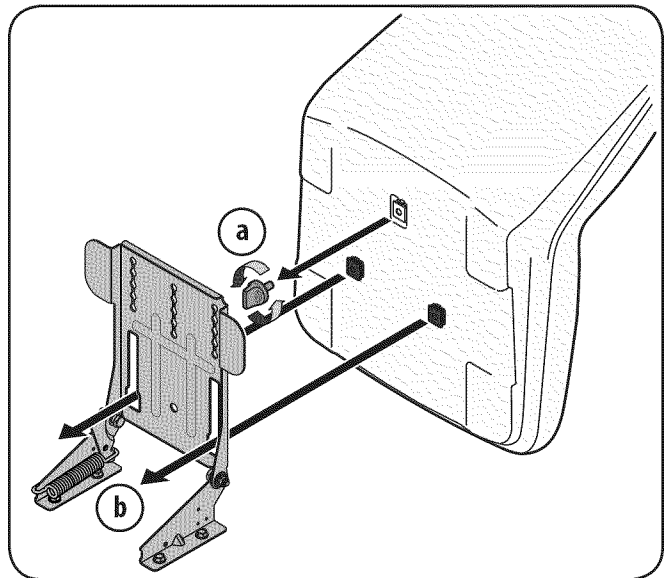

Figure 3-5
1. As already instructed, remove the seat adjustment knob installed by the factory in the bottom of the seat. See “a” in Figure 3-5.
2. Align the seat over the seat pivot bracket as shown in Figure 3-5 and fit the seat onto the pivot bracket inserting the two tabs on the seat bottom into the slots on the pivot bracket.